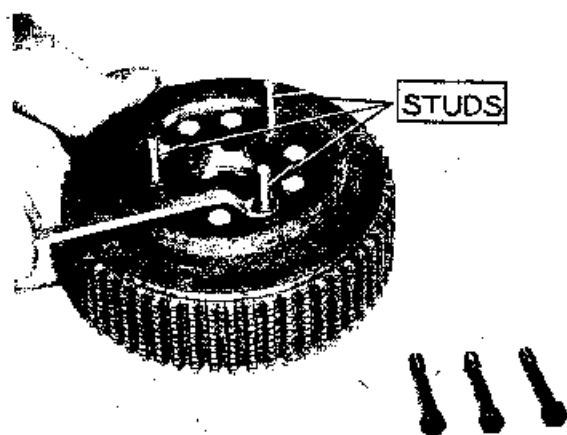

FIG. 13
2. Remove lockwire and unscrew 3 of the 10 capscrews. Fig. 13. Install in these holes 3 1/2" x 6" studs which have 1" N.F. thread on one end and 2 1/2" N.C. thread on the other end. Install the end with 1" thread in the shifter plate.